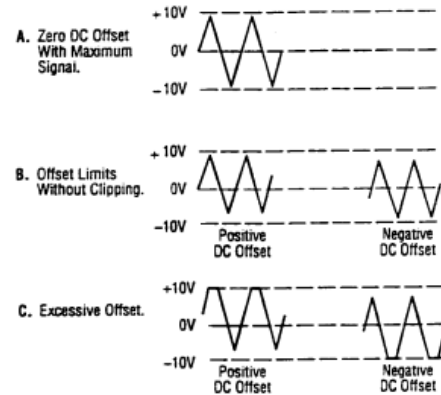

Figure 3. Use of DC OFFSET Control
7. A superimposed DC component can be added to the output signal by engaging the **DC OFFSET** switch (14) to enable operation of the **DC OFFSET** control (5). Rotation of this control adds a positive or negative DC component to the output signal. The DC component introduced is independent of the **OUTPUT LEVEL** control and can be varied by ± 10 volts open circuited or ± 5 volts into $50\ \Omega$. The DC Offset does not affect the **TTL/CMOS** output jack. The effect of DC OFFSET is shown in Fig. 3.
- Remember that the output signal swing of the generator is limited to ± 10 volts open circuited or ± 5 volts into 50Ω , and applies to the combined peak-to-peak signal and DC offset. Clipping occurs slightly above these levels. Fig. 3 illustrates the various operating conditions encountered when using the DC offset. If the desired output signal is large or if a large DC offset is required, an oscilloscope should be used to make sure that the desired signal is obtained without undesirable clipping.